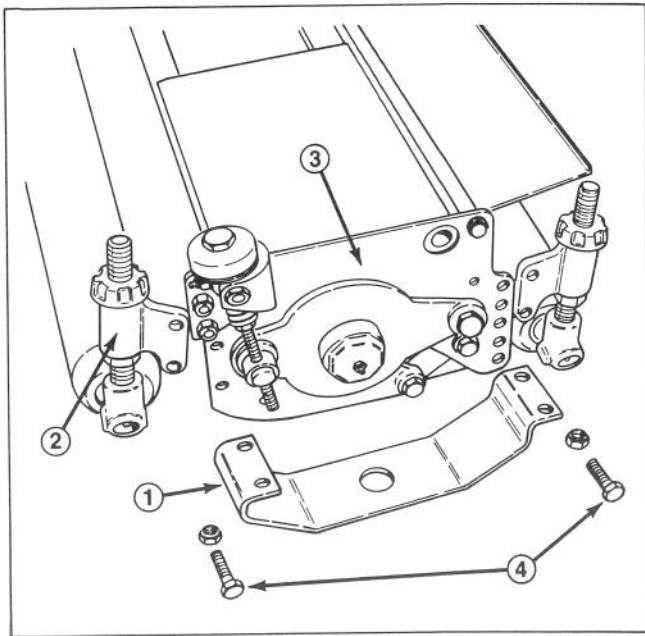
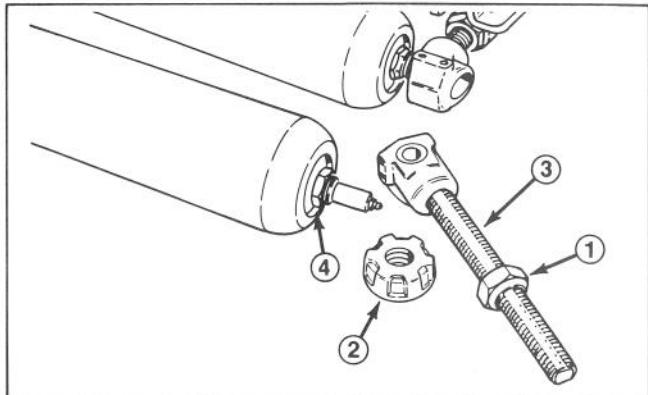

Figure 31
Figure 32
1. Remove the fasteners securing the guard and roller adjustment housing to the side plate (Fig. 31) or loosen the cone nuts on the threaded adjustment rod, unscrew the adjustment knob and drop the threaded rod out of the adjustment housing (Fig. 32).
2. The threaded rod and collar assembly can be removed from the roller by sliding it off the shaft at both ends (Fig. 32).
**IMPORTANT:** When assembling a new roller to the cutting unit mount the roller so that the roller shaft "flex lock nut" is on the right side of the cutting unit (Fig. 32). (As viewed by the operator sitting on seat of machine). This prevents the lock nut from loosening during operation.